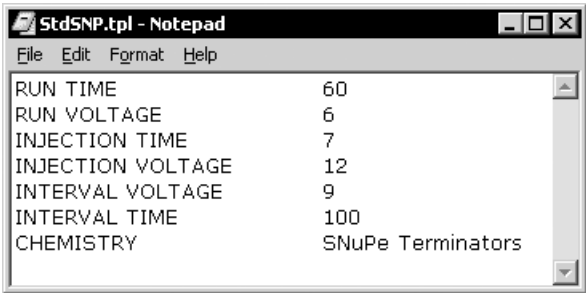

Figure 12-2. An example of a plate set setup template file (.tpl) for SNP genotyping.
2. Type the field names in the first column (field column), and type the values for each field in the second column (value column). Make sure the field column and value column are separated by a tab. See table 12-1 for a list of the recognized fields for the plate set setup parameters. Figure 12-2 shows an example of the StdSNP.tpl file for SNP genotyping, which is included with the software.